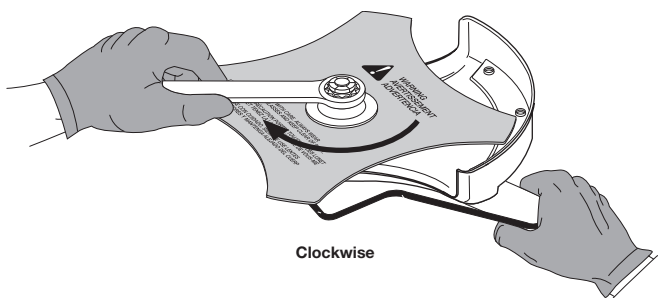

Fig. 16
- While holding the locking rod, loosen the nut on the blade by turning it clockwise with a 13 mm closed-end or socket wrench (Fig. 16).